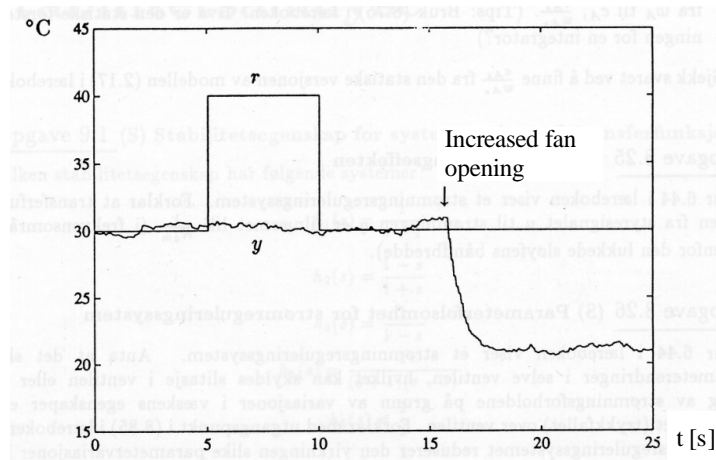

Figure 7.3:
2. Figure 7.3 shows the response in the temperature y after a step in the temperature reference (setpoint) and after a step in the air inflow